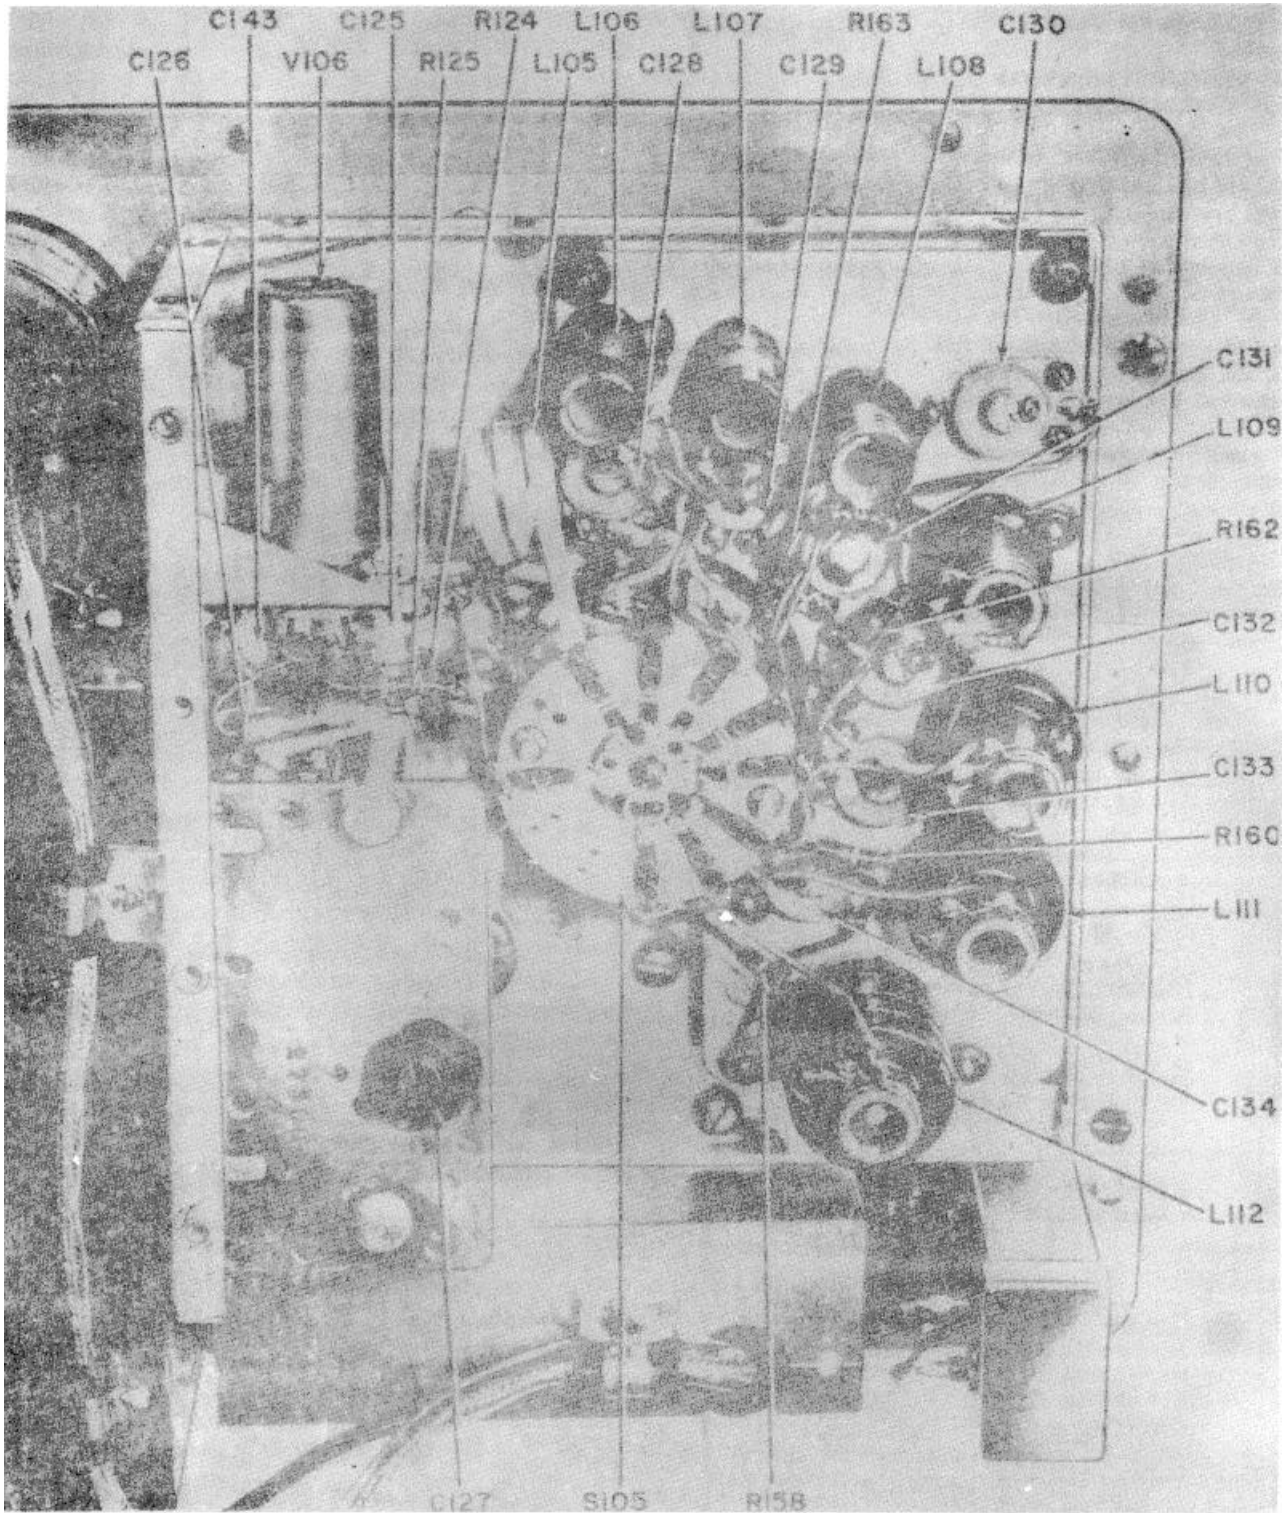

Figure 6-7. Interior View of Carrier Oscillator Compartment
(See figure 6-7)
Figure 6-7 shows the locations of the trimmers and inductances that may require readjustment. Make sure that only the parts relevant to the frequency band being calibrated are adjusted. Follow the calibration procedure and do not turn screws indiscriminately.
9. FREQUENCY CALIBRATION PROCEDURE. (See figures 6-7 and table 6-1)
c. ADJUSTING THE RF COILS. (See figure 6-7 and table 6-1)
(1) Identify the coil that must be readjusted (See figure 6-7).
(2) Set the main tuning dial (I-103) at the selected calibration point for the range in question.
(3) Note the original position of the core slot in the coil form. Move the core slightly in the required direction.